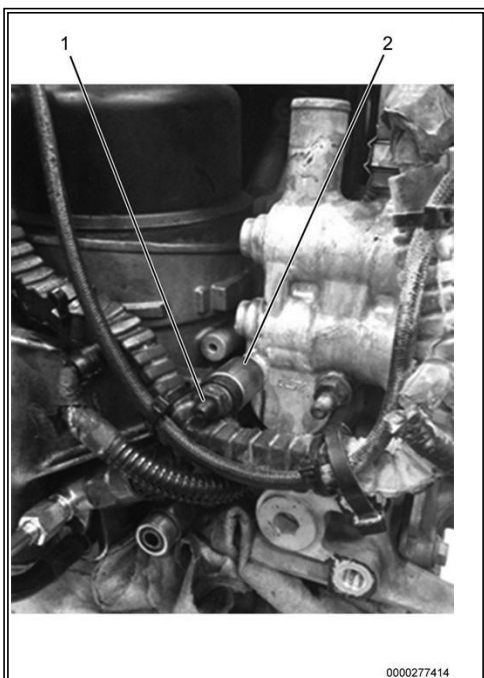

Figure 15: Rear CCV Stud.
- Remove rear coolant control valve (CCV) stud bolt, and install spacer with longer stud bolt (Figure 15, Items 1 and 2).